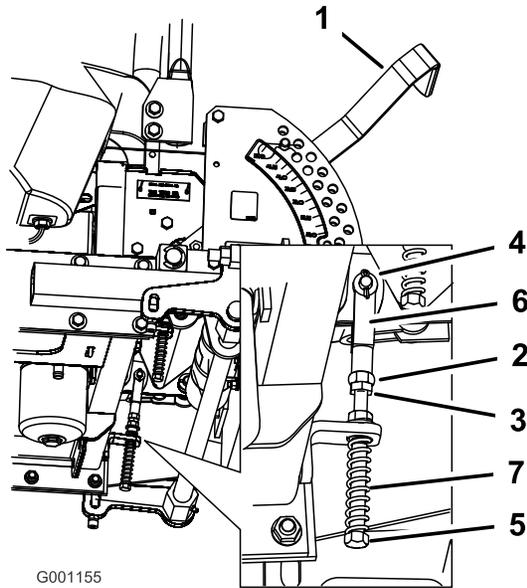

Figure 94
8. If adjustment is needed, loosen the nut and jam nut against the yoke (Figure 94).
- While applying slight rearward pressure on the motion-control lever, turn the head of the adjustment bolt in the appropriate direction until the control lever is centered in the NEUTRAL-LOCK position (Figure 94).
- Tighten the nut and jam nut (Figure 94).